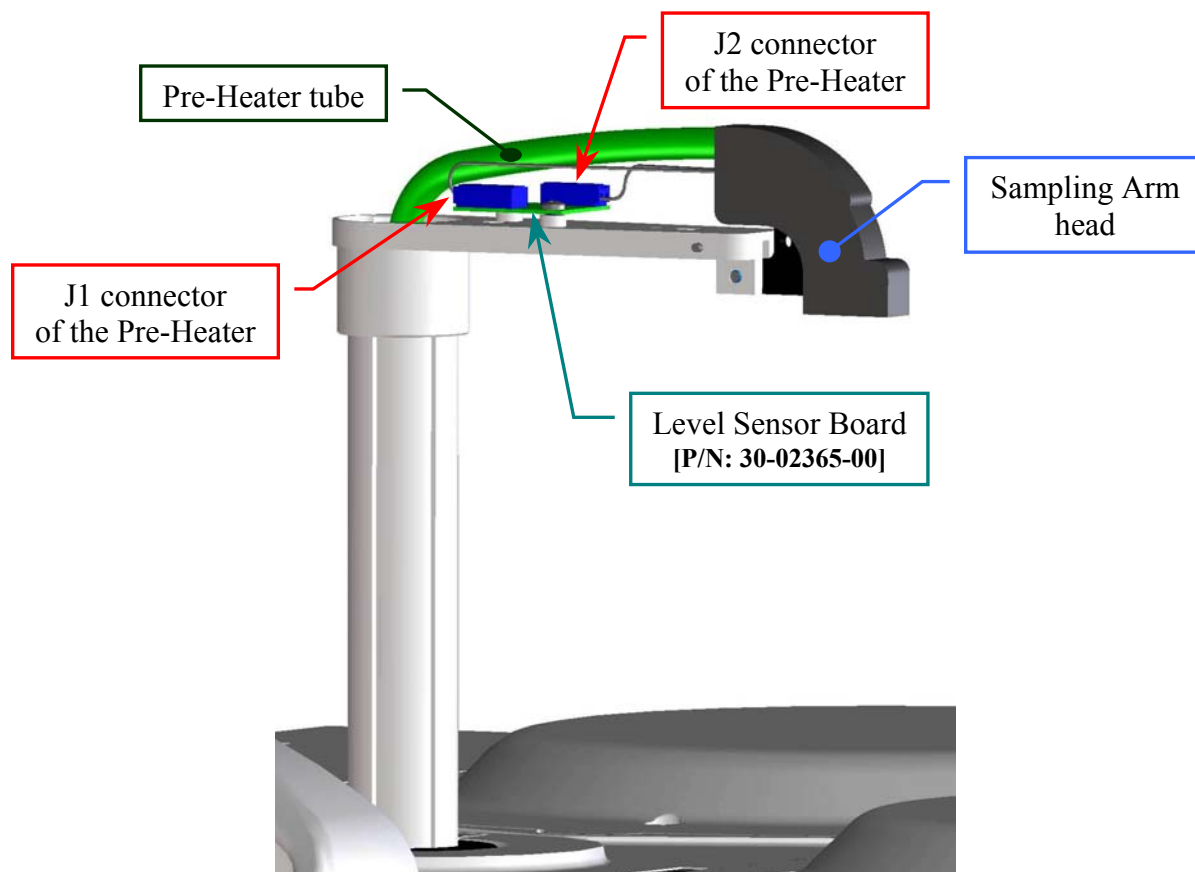

Fig. 45 – Head of the Sampling Arm
4. Unplug the J1 and J2 connectors of the Pre-Heater from the Level Sensor Board (compare the scheme SC-30-02193-00 and the **Fig. 45**).
12. Pull the Pre-Heater (tube and wires) in the interior side of the Sampling Arm vertical axis (as showed in **Fig. 50(a)** and in **Fig. 50(b)**) until you reach the placement showed in **Fig. 45**.
14. Plug the J1 and J2 connectors of the Pre-Heater (**Fig. 49**) in the J1 and J2 connectors – respectively – of the Level Sensor Board (compare the sch. SC-30-02193-00 and the **Fig. 45**).